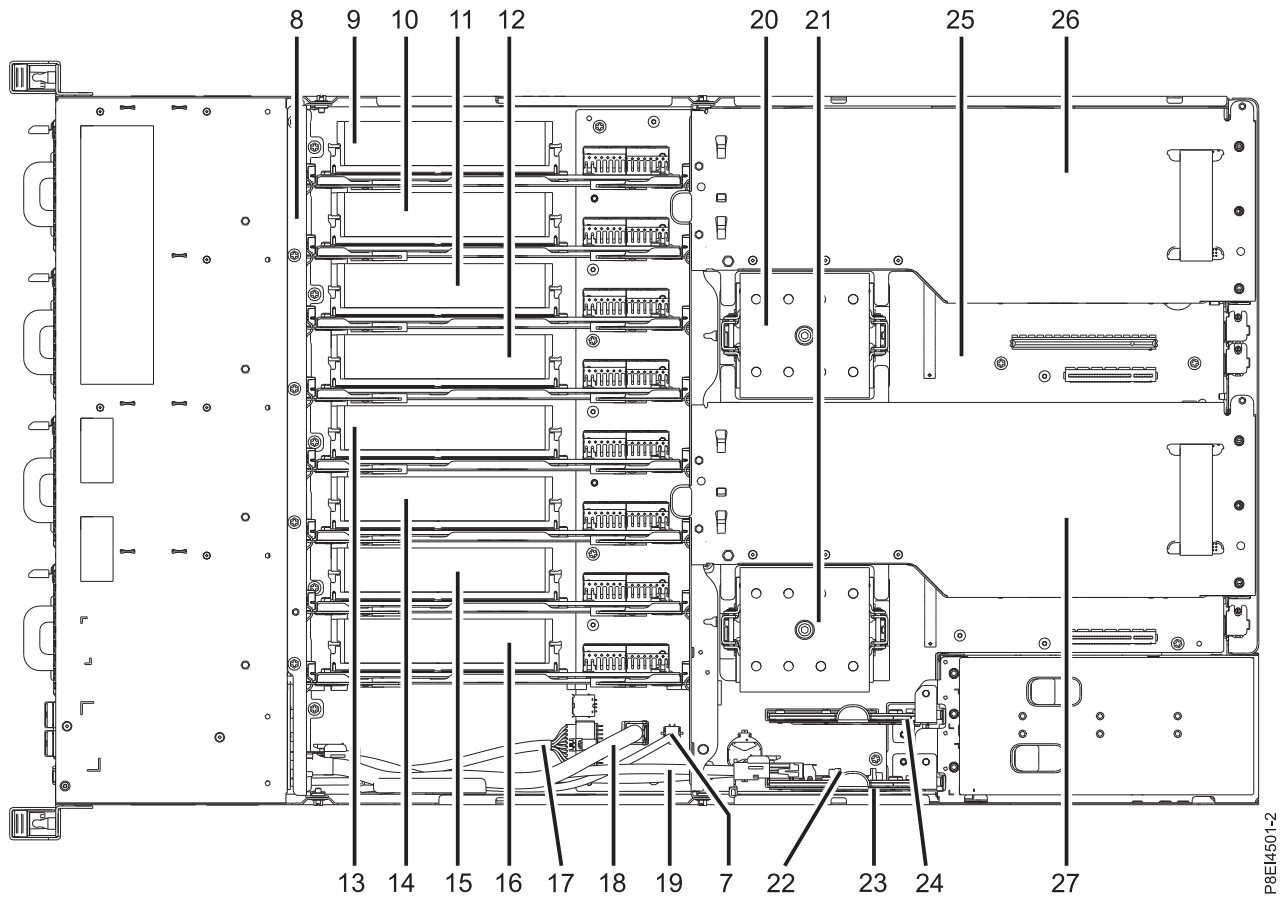

Figure 31. Location of the memory risers: positions 9 through 16
3. Locate the memory riser that contains the failed memory DIMM. Figure 31 on page 33 shows the location of the memory risers in the 8335-GCA or 8335-GTA system and Figure 32 on page 33 shows the DIMM slot locations on the riser.